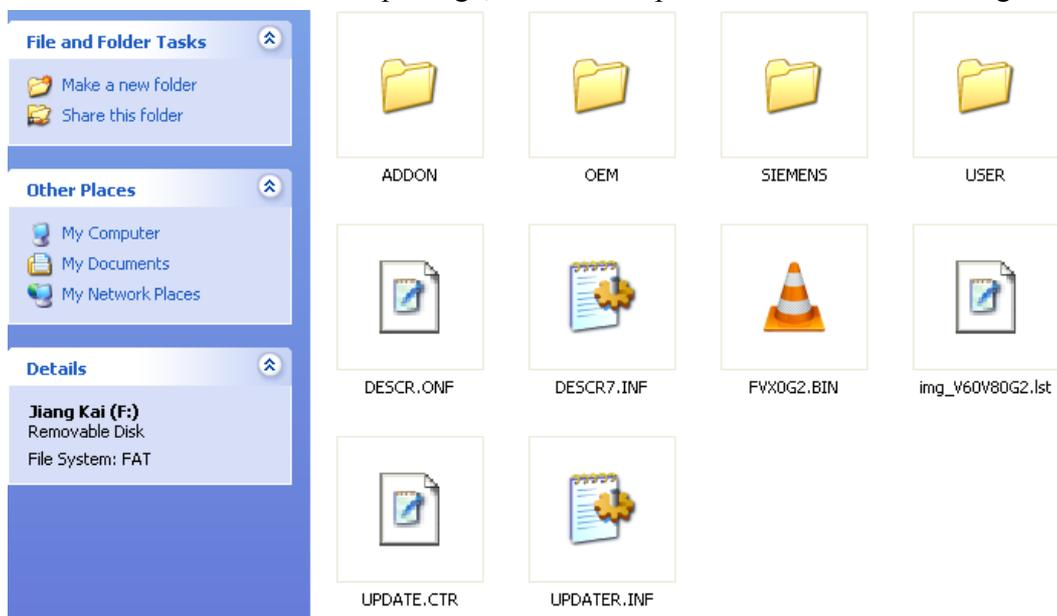

Figure 1 V90 firmware files after extraction
1. Extract V90 firmware release package, afterwards open the folder for files as figure 1.